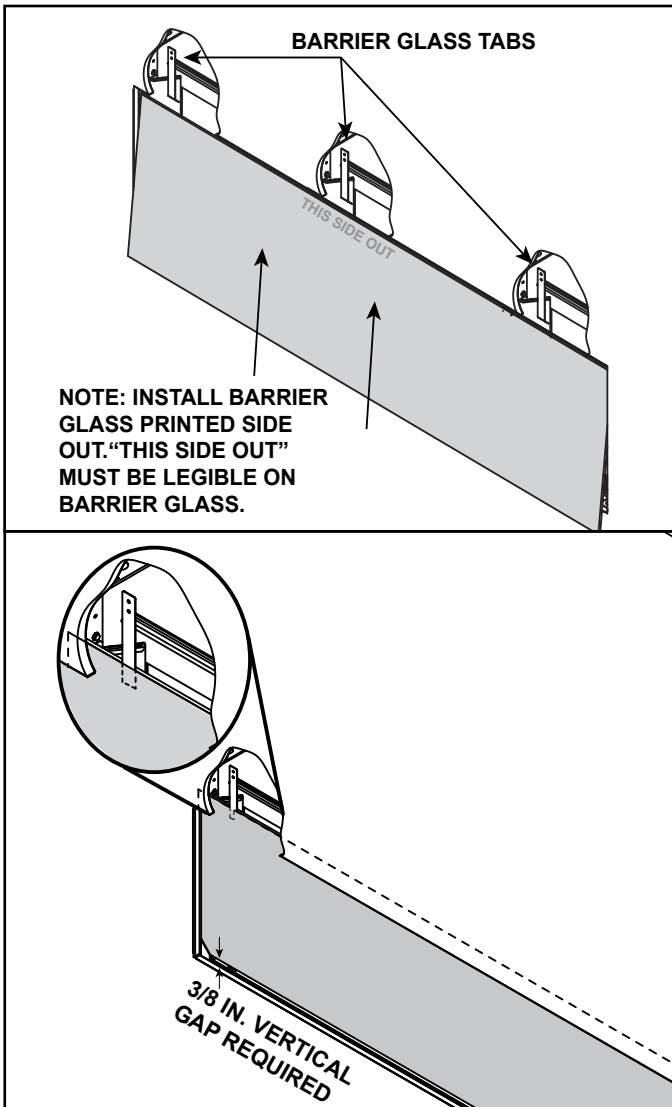

Figure 11.3. Replace Barrier Glass - Clean Face Finish
2. Tilt glass and slide glass between finishing material and barrier glass tabs. See Figure 11.3.
**NOTE:** Barrier glass must be installed between the finishing material and the barrier glass tabs. If not installed correctly, appliance will not operate. See Figure 11.3.